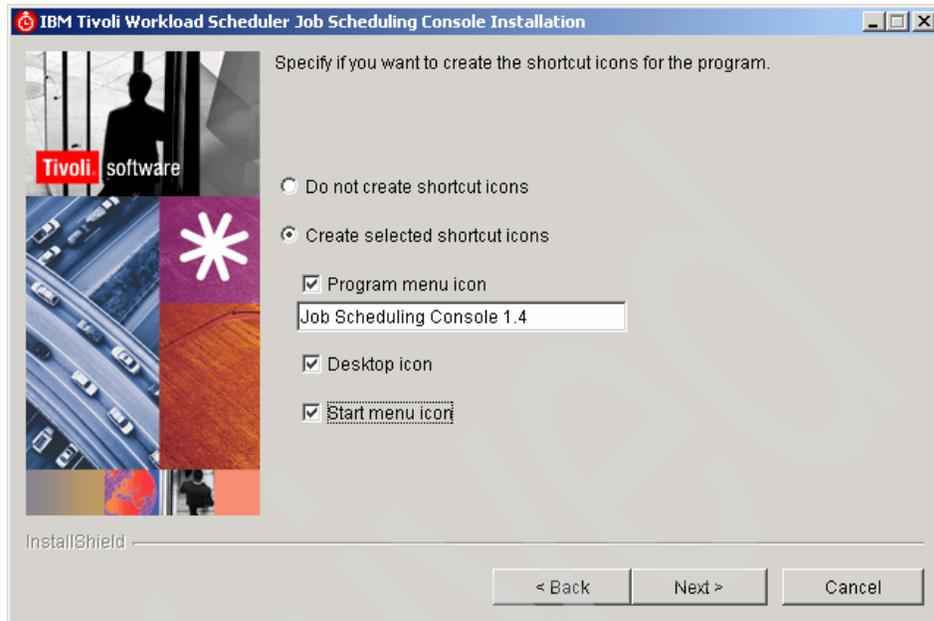

Figure 16-14 JSC icon
6. Choose whether to have an icon created for JSC Version 1.4 (Figure 16-14).